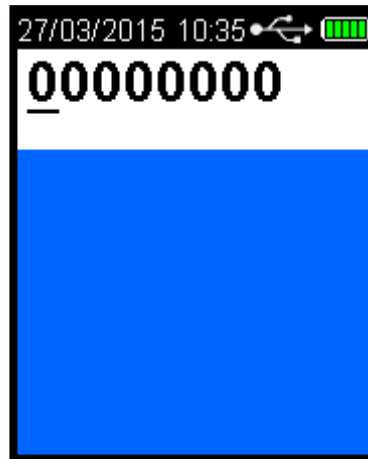

Figure 69 Password Set-up Code 00000000
- With the screen displaying press to test, Press the UP and Down buttons simultaneously for approximately five seconds. The menu screen will be displayed during this process and then the password set-up code '00000000' will be displayed (Refer Figure 69).